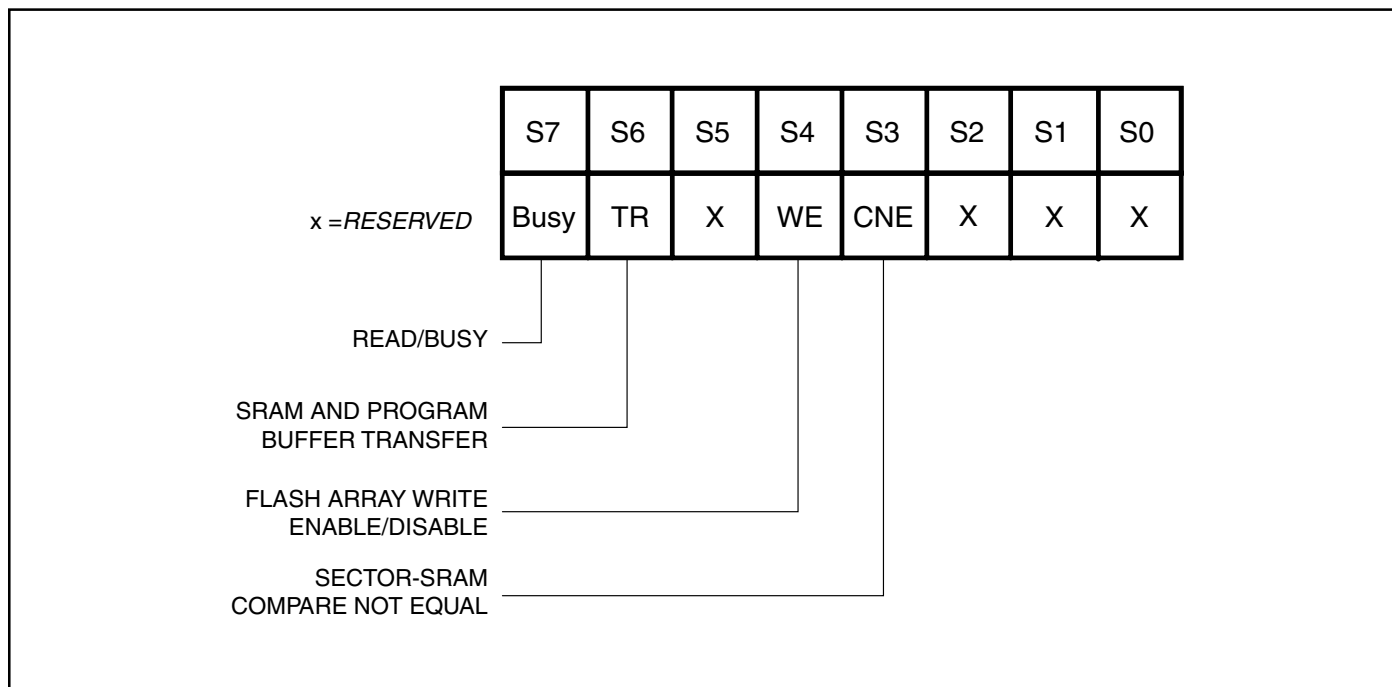

Figure 8. Status Register Bit Locations
The Status Register provides status of the Flash array's Ready/Busy condition (R/B), transfers between the SRAM and program buffer (TX), Write-Enable/Disable ($\overline{\text{WE}}$), and Compare Not Equal (CNE). The register can be read using the *Read Status Register* command (Figure 8).